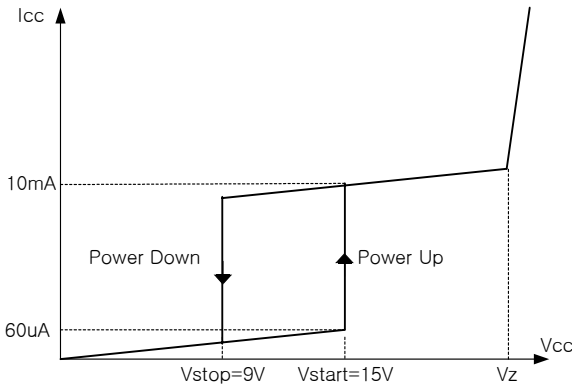

Figure 1. Relation between supply current and voltage
**1. Startup** : To guarantee stable operation of the control IC, Vcc has under voltage lockout (UVLO) with 6V hysteresis. Figure 1 shows the relation between the supply current (Icc) and the supply voltage (Vcc). Before Vcc reaches 15V, the start-up current is 60µA, which is usually provided by the DC link through start-up resistor. When Vcc reaches 15V, the control IC begins operation and the operating current increases to 10mA as shown. Once the control IC starts operation, it continues its normal operation unless Vcc goes below the stop voltage of 9V.